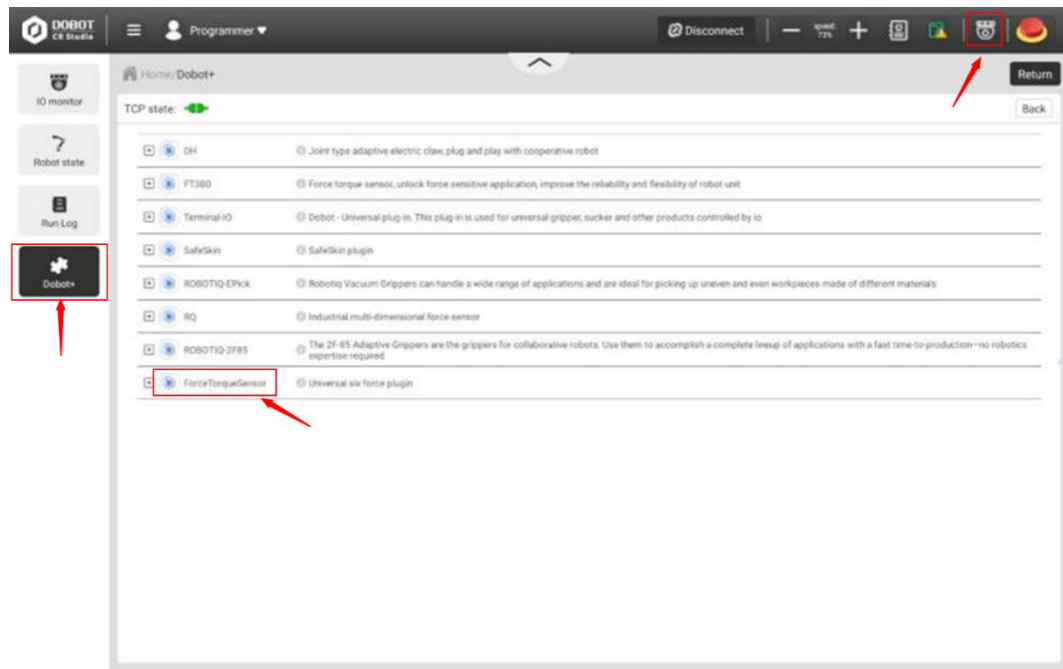

Figure 3.8 Install ForceTorqueSensor plug-in
Step 1 Click **Monitor** or  to enter the monitor page. Select **Dobot+** in the left-side menu, as shown in Figure 3.8.